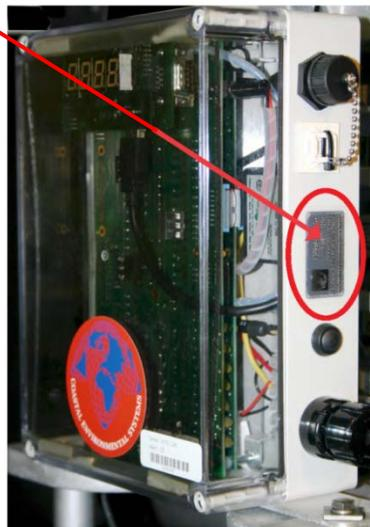

Figure A-7: FPR-E ZENO® Assembly Serial Number
2. Write down the FPR-E ZENO® Assembly Serial Number (see Figure A-7). The serial number will be needed for the CSSA B-44 update (Section A.6.7.2).